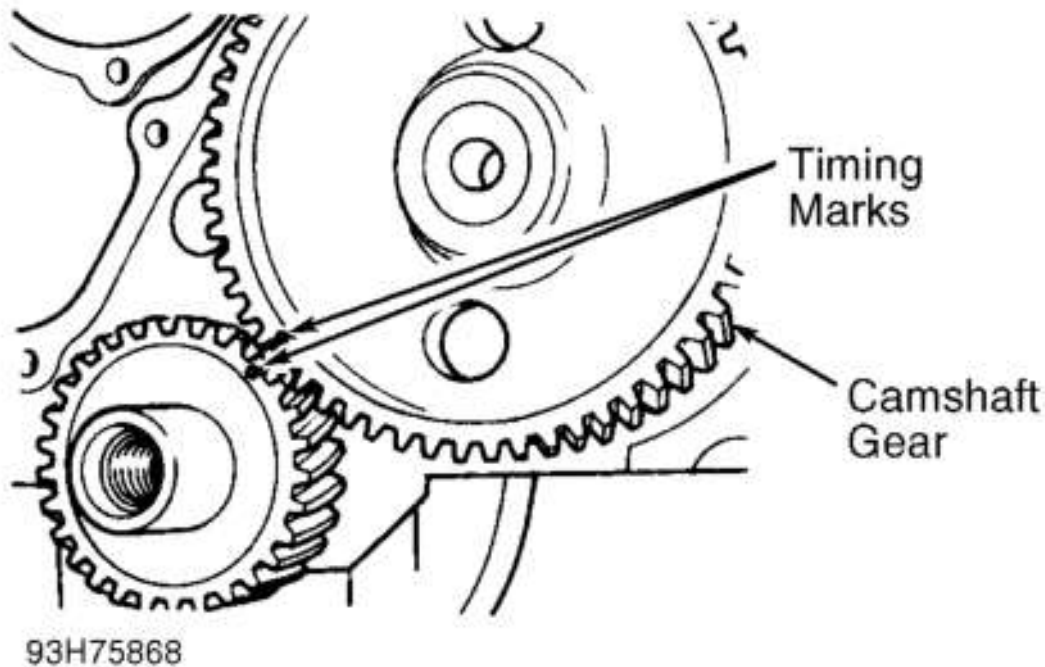

Fig. 6: Aligning Timing Marks
2. Rotate engine (in direction of normal rotation) until camshaft and crankshaft gear timing marks are aligned. See **Fig. 6**. Using Camshaft Gear Puller (T82T-6256-A), remove camshaft gear. Using Crankshaft Damper Remover (T58P-6316-D), remove crankshaft gear. Remove Woodruff keys from camshaft and crankshaft.
4. Replace camshaft thrust plate if end play is not within specification. See **CAMSHAFT** table under ENGINE SPECIFICATIONS. Turn crankshaft to align gear timing marks. See **Fig. 6**.
2. Install camshaft, spacer, thrust plate and gear as an assembly, ensuring timing marks are aligned. See **Fig. 6**. Tighten thrust plate bolts. Ensure camshaft end play is within specification. See **CAMSHAFT** table under ENGINE SPECIFICATIONS.